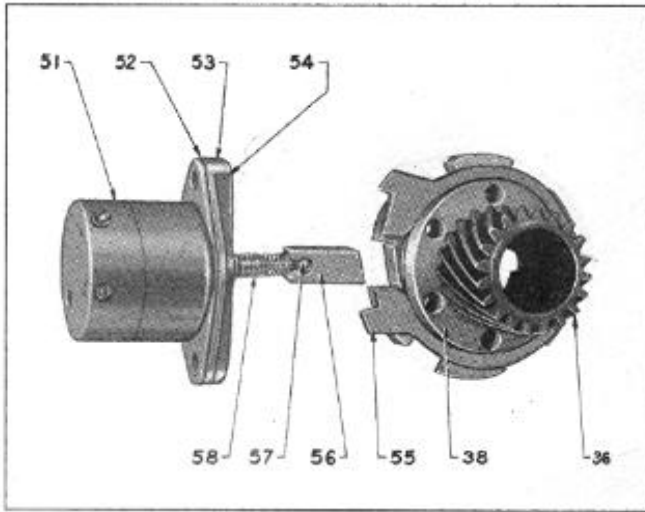

Figure 4
When the accelerator is pressed beyond the wide-open throttle position, the solenoid switch is operated and closes the circuit in the solenoid relay which in turn closes the circuit in the solenoid (51), Figure 4. Closing of the circuit energizes the solenoid and sets up magnetic force which draws the operating rod (57) and pawl (56) outward against pressure of spring (58). This action also cuts